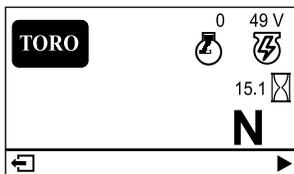

Figure 22
- **Main information screen (Figure 22):** shows current machine information while the key is in the ON position.